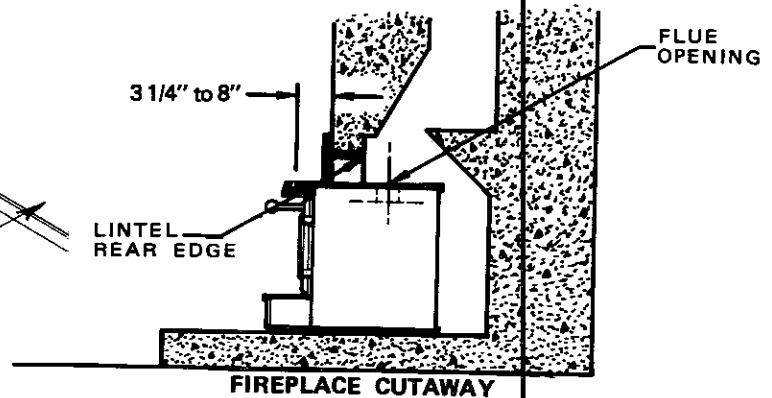

FIG. 15
IMPORTANT: (Fig. 15)
After the fireplace hearth has been leveled, the Fireplace Insert should be slid into position. Carefully check to see that the flue opening in the Fireplace Insert is unobstructed and that the smoke leaving the Insert can rise directly into the fireplace chimney. (See Fig. 15)
1. Slide the Fireplace Insert into the fireplace to the depth desired within the limits of installation. (See Fig. 15).